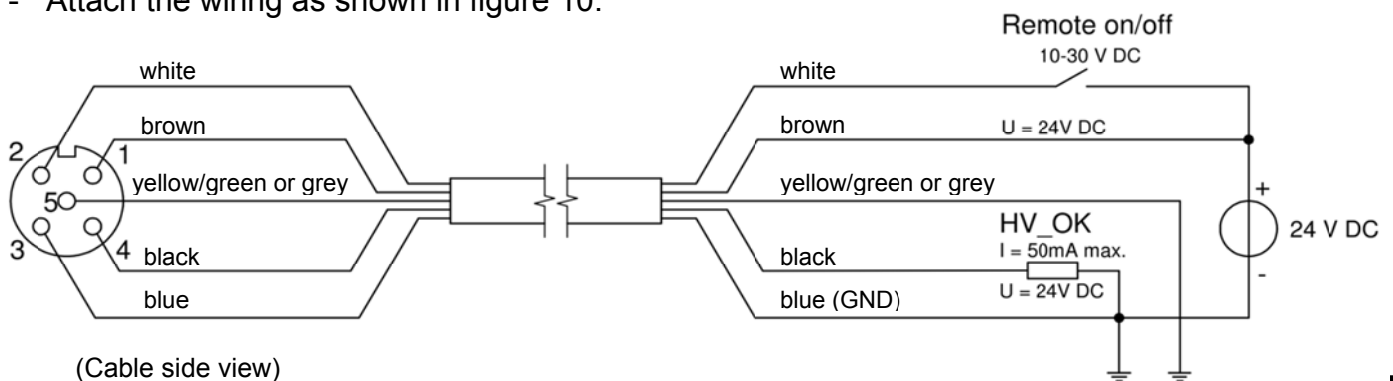

Figure 10: Wiring of the bar
- Attach the wiring as shown in figure 10.